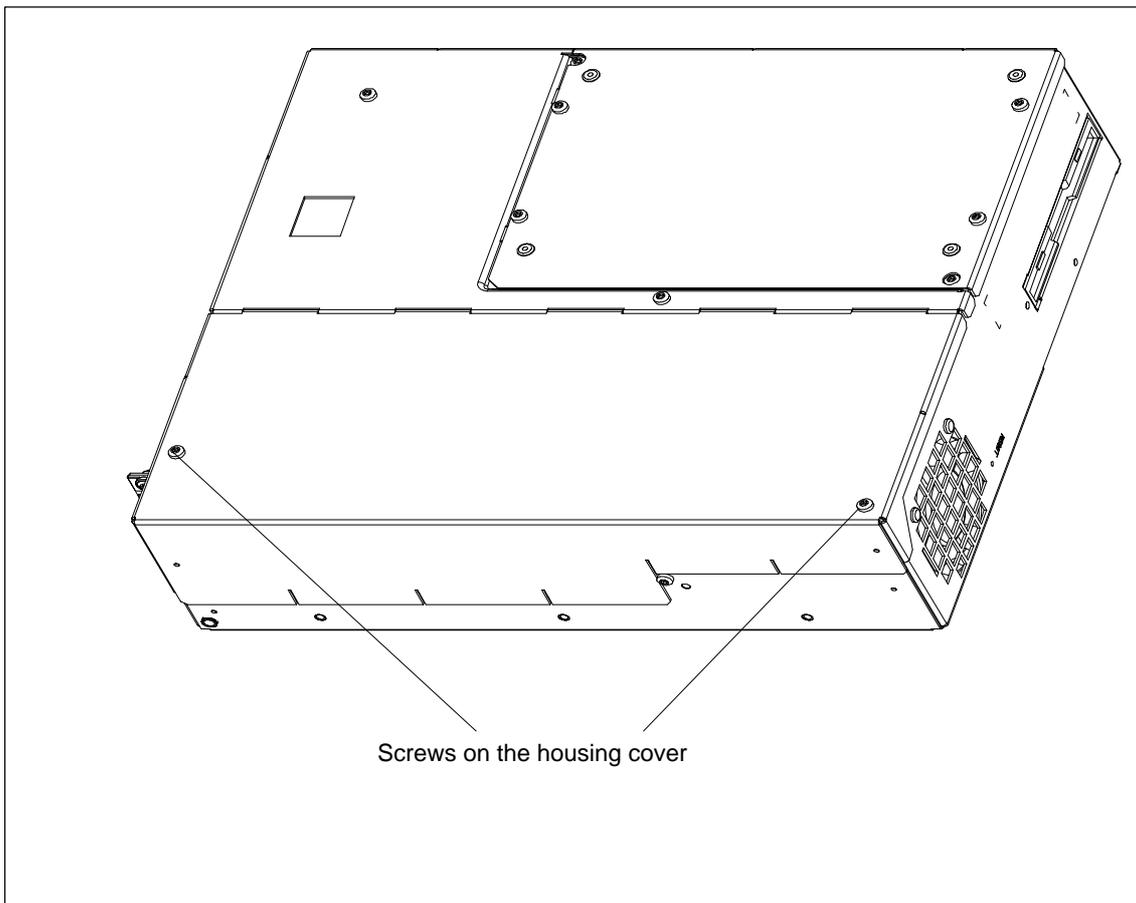

Figure 4-1 Computing Unit Prepared for Opening
3. Undo the two screws (refer to Figure 4-1) on the housing cover.